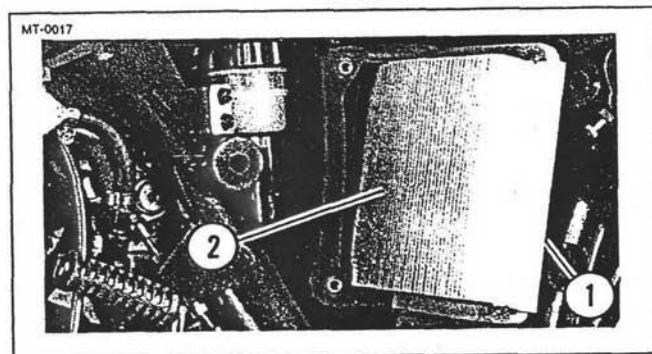

Figure 5-3. Airbox Filter Element
3. See Figure 5-3. Remove U-channel (1) and airbox filter element (2).
1. See Figure 5-3. Install element (2) into airbox, making sure that seal of element is positioned in channels molded into airbox. Apply a small amount of grease around the edges of the element to allow the element to slip into place easier. Work element into airbox a bit at a time, alternately pushing on the top and then the bottom of the element. When element has been installed to its full length, install U-channel (1) over edge of seal.